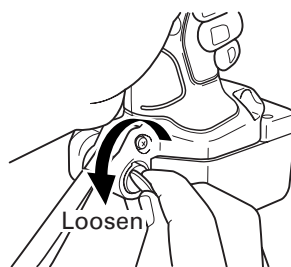

Fig. 6
- (a) Securely hold the main unit and remove the screw using a slotted head screwdriver or a coin. (Fig. 6)
- (c) Install the hook and spring on the other side and securely fasten with screw. (Fig. 6)